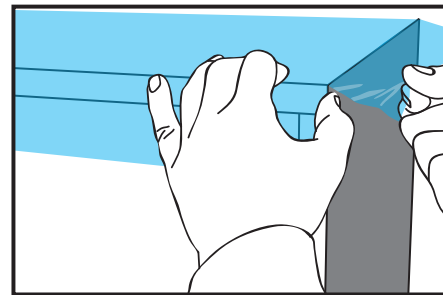

Figure 08
- › Apply the film to one of the edges of the table by folding the film over the angle of the edge. (FIG. 08)